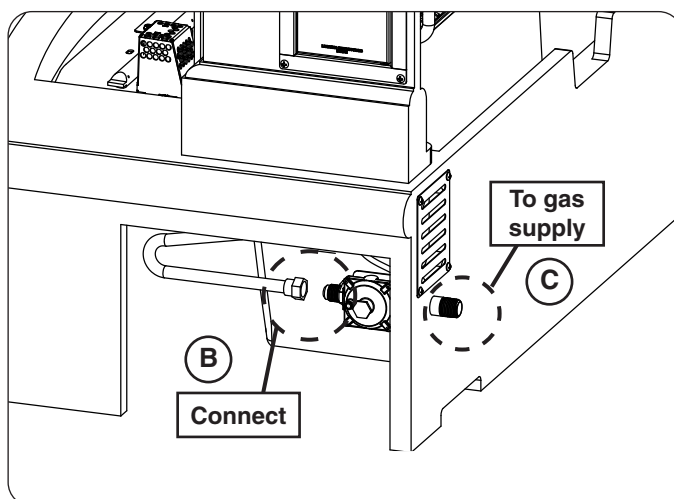

Fig. 28-2 Connect flex, then route gas supply
2. Connect the flex connector to the flare adapter found on the regulator that is affixed to the rear of the hearth (see Fig. 28-2, B).
3. Route the gas supply (natural gas, household propane, or from an L.P. Cylinder) to the unit as applicable (see Fig. 28-2, C).